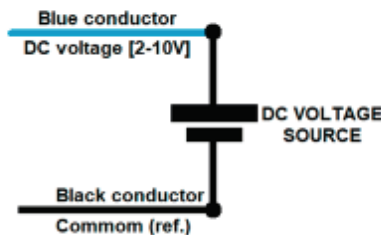

Figure 3.2 - DC voltage input (using external power supply)
- DC Voltage: 2-10V DC (Blue & Black signal wires - figure 3.2)